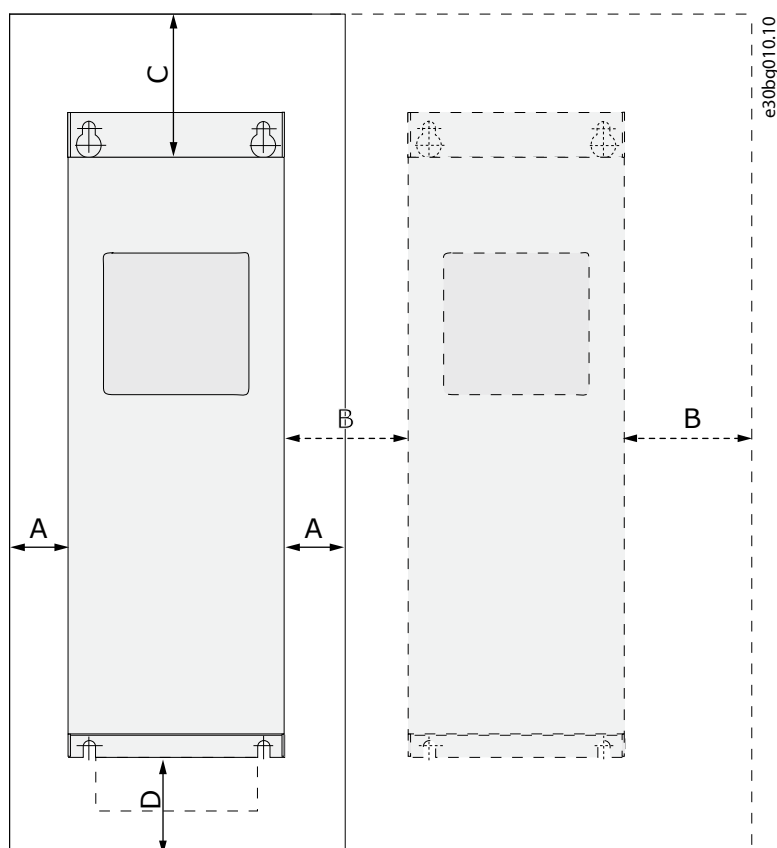

Figure 6: Installation Space
- If many AC drives are installed above each other, the necessary free space is C + D (see Figure 6).